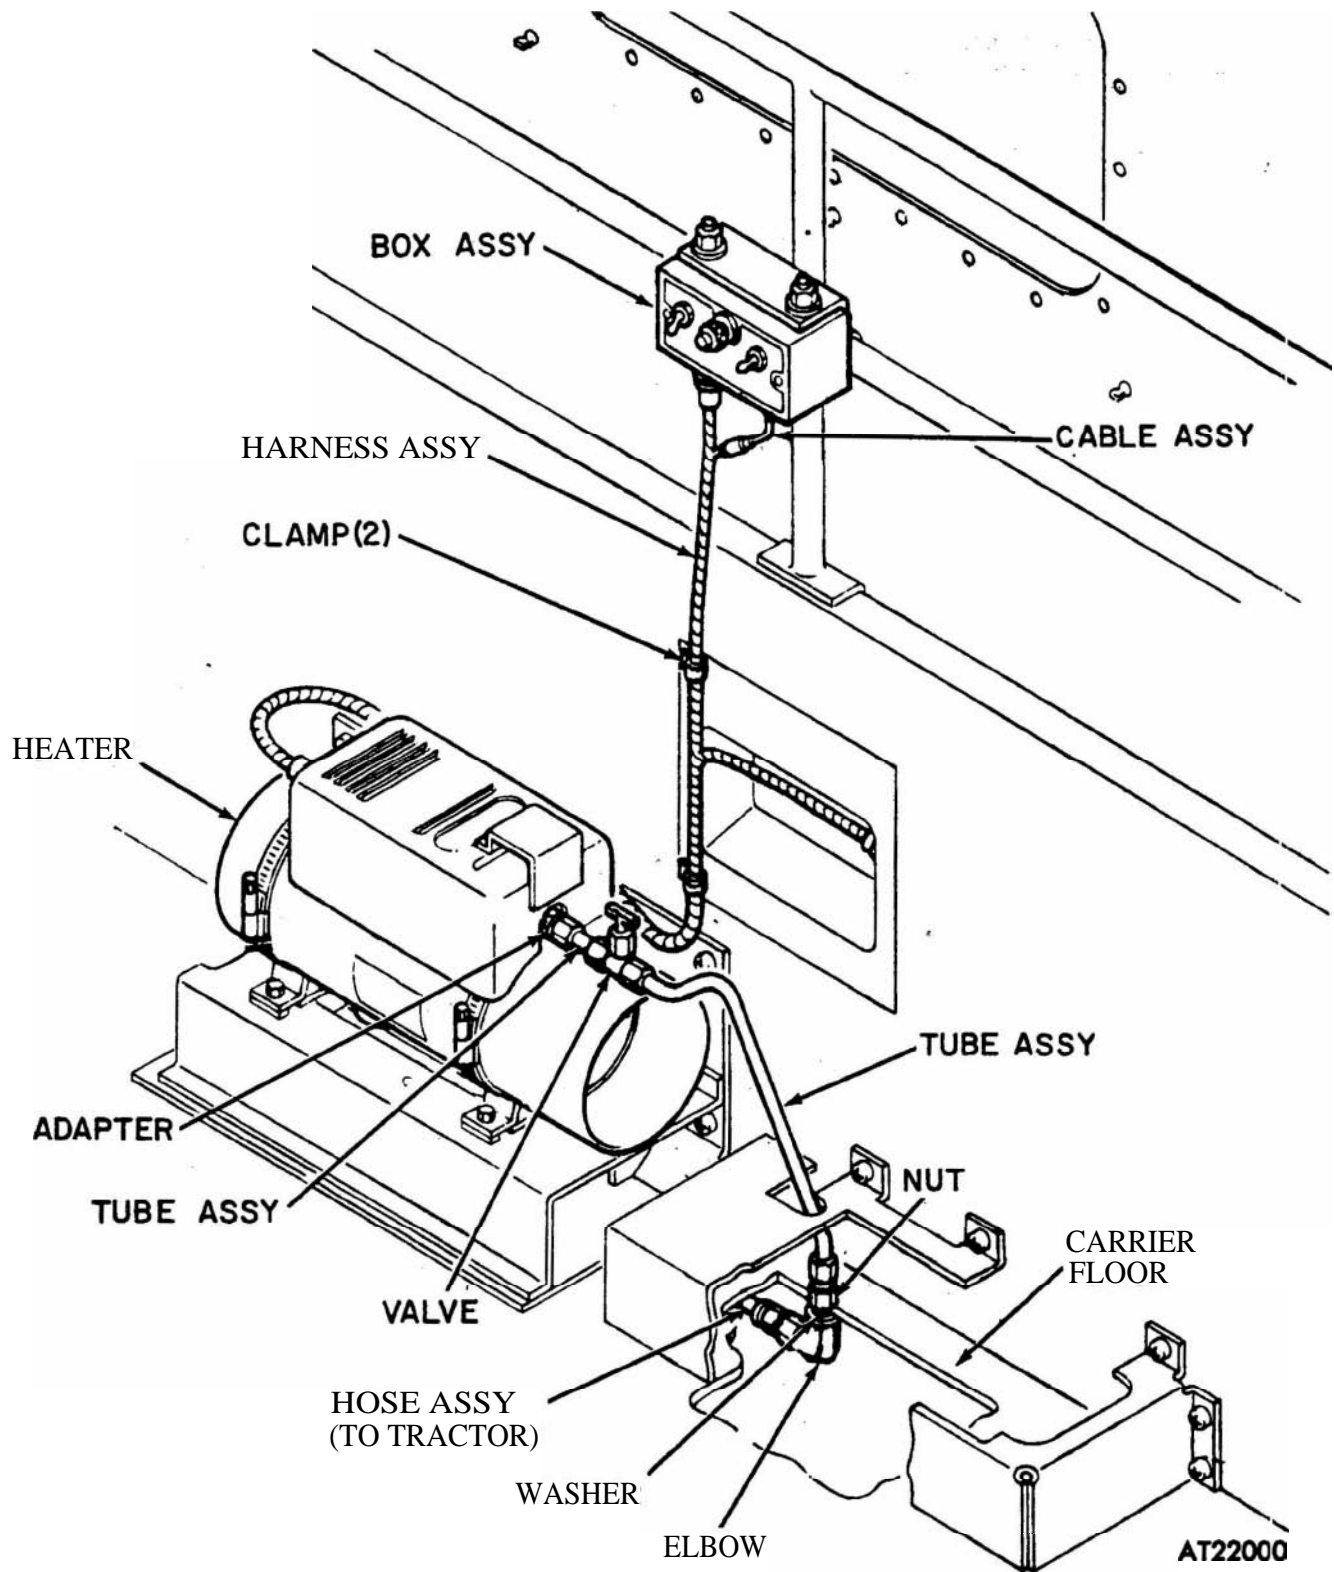

Figure 2-348. M792 ambulance heater harness assembly and fuel line installation.
(1) Disconnect electrical cable assembly from carrier heater (fig 2-348).
(2) Disconnect fuel tube assembly from heater adapter. Remove adapter from heater.